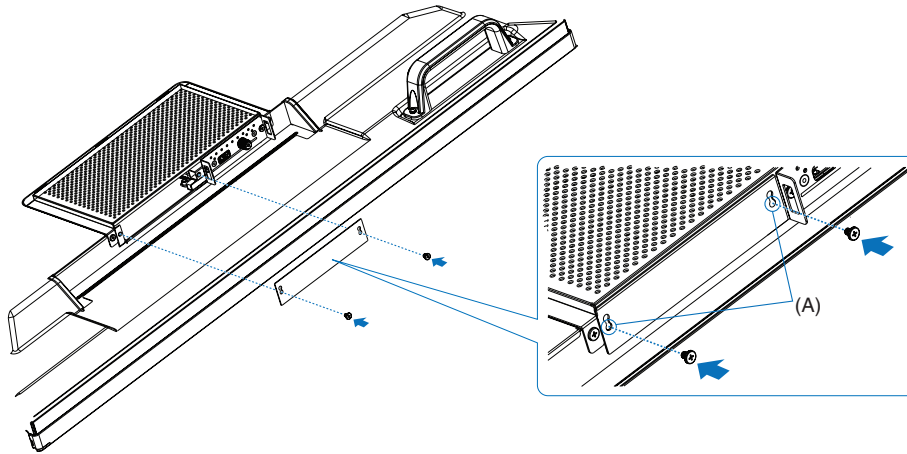

Figure 3
6. To close the opening of the slot you did not use, reattach the SLOT COVER (① or ②) with the removed screws (See **Figure 1**). When attaching the SLOT COVER ① or ②, use the holes (A) shown below in the SLOT COVER (**Figure 3**).